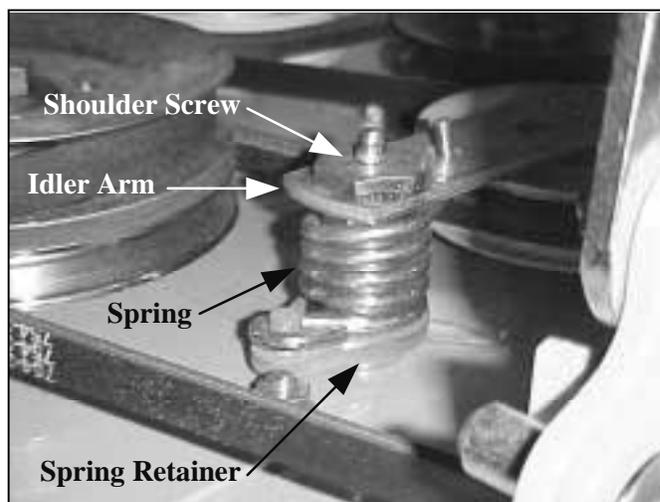

FIGURE 1
3. With the tension released on the idler remove the shoulder screw, idler arm, spring and spring retainer. Discard the spring retainer. See Figure 1.